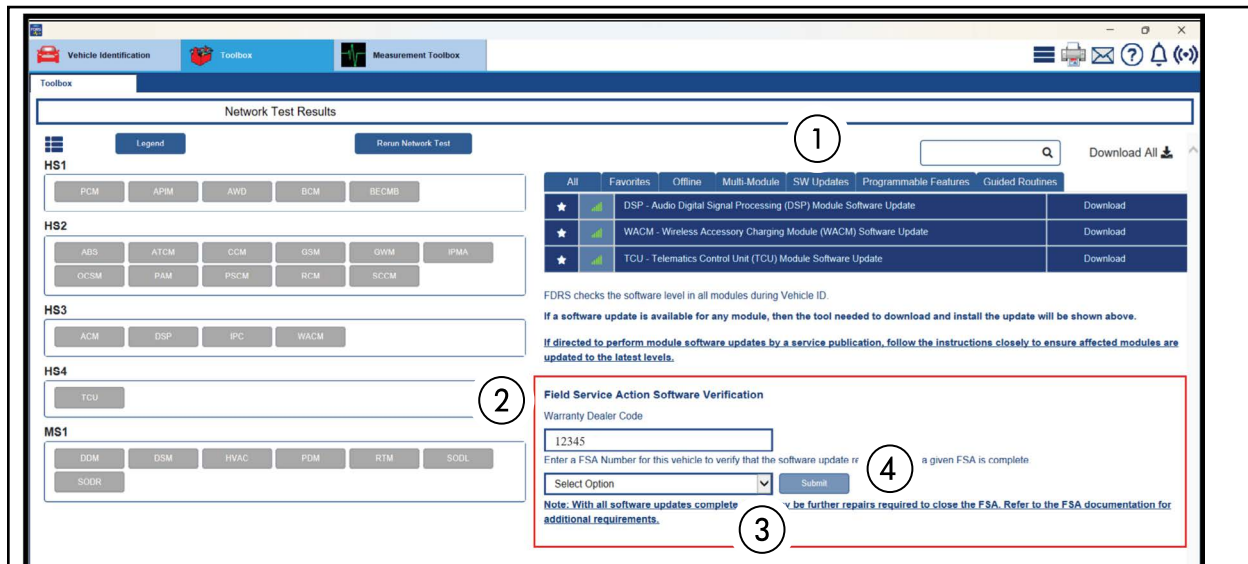

FIGURE 1
12. Select the **SW Updates** tab (1). See Figure 1.
13. **Warranty Dealer Code** (2) - Change the displayed PA code as necessary. See Figure 1.
14. Select the **FSA** (3) from the drop-down menu. See Figure 1.
15. Select **Submit** (4). See Figure 1.